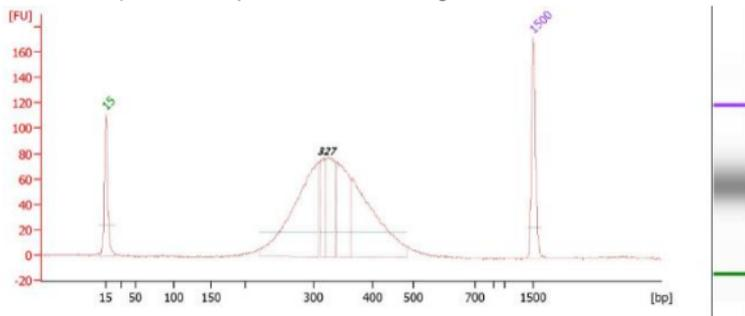

Figure 1 The Agilent 2100 Bioanalyzer Results of purified PCR Product
- 3.7.2 Assess the fragment size distribution of purified PCR products with electrophoresis-based equipment such as Bioanalyzer, TapeStation (Agilent Technologies), LabChip® GX, GXII, GX Touch (PerkinElmer) or Fragment Analyzer™ (Advanced Analytical). See the Agilent 2100 Bioanalyzer Results of purified PCR Product in Figure 1.